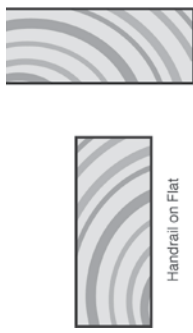

Figure 3. Handrails - on flat / on edge
1. Handrails with no intermediate vertical supports may be used on flat or on edge. See Figure 3.